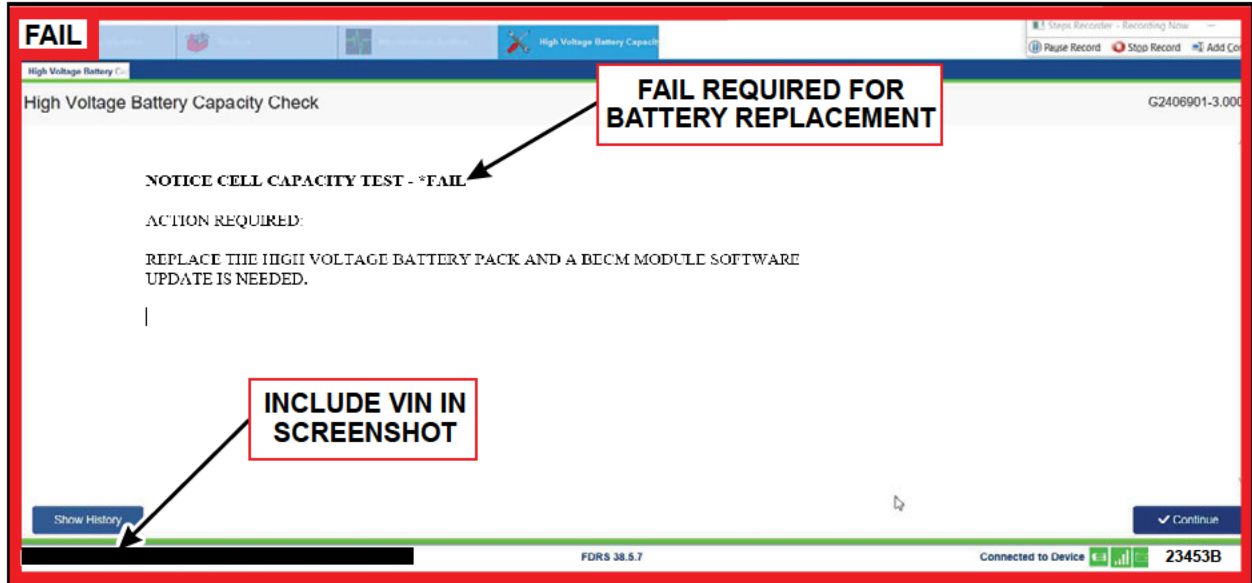

FIGURE 1
**NOTE:** Available modules are shown on the left hand (LH) side of the screen and available procedures are listed on the right hand (RH) side of the screen. Modules that are communicating are highlighted in green.
10. Did the high voltage battery capacity check FAIL or PASS? See Figures 1 and 2.
11. Submit two (2) pictures to the Special Service Support Center (SSSC) web contact site to order a high voltage battery.
a. Picture 1: TEST - **FAIL** screenshot from FDRS as shown in Figure 1 of the failed vehicle.